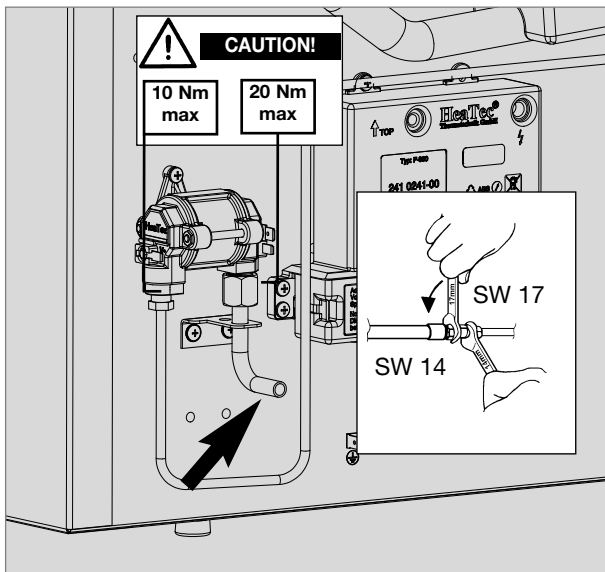

Fig. 34
- The gas connection to the appliance is effected by means of (Ermeto-) olive type fitting L8, DIN 2353-ST, complying with EN 1949 ( s. figure 34).